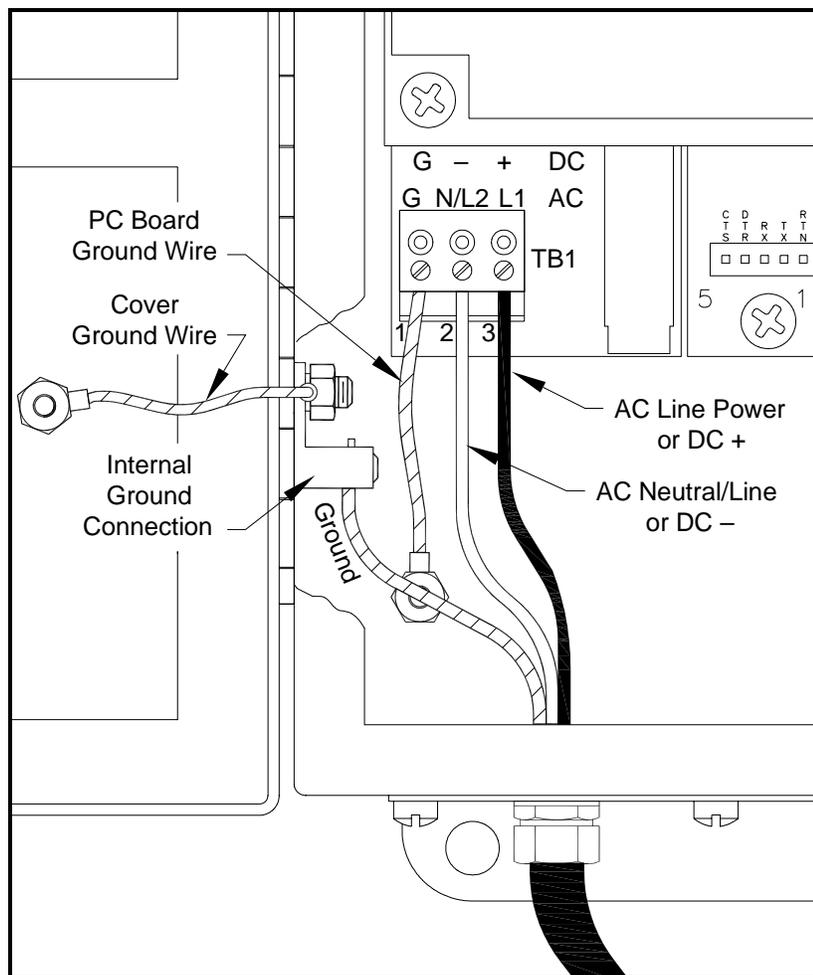

Figure 1-35: Wiring the Line Power
Refer to Figure 1-35 on page 1-32 or Figure 1-42 on page 1-43 to locate terminal block TB1 and connect the line power as follows:
3. Connect the ground lead to the internal ground connection located on the side panel of the enclosure (see Figure 1-35 below).
4. Connect the neutral or line lead (or the negative – DC power lead) to TB1-2 and the line power lead (or the positive + DC power lead) to TB1-3 as shown in Figure 1-35 below.